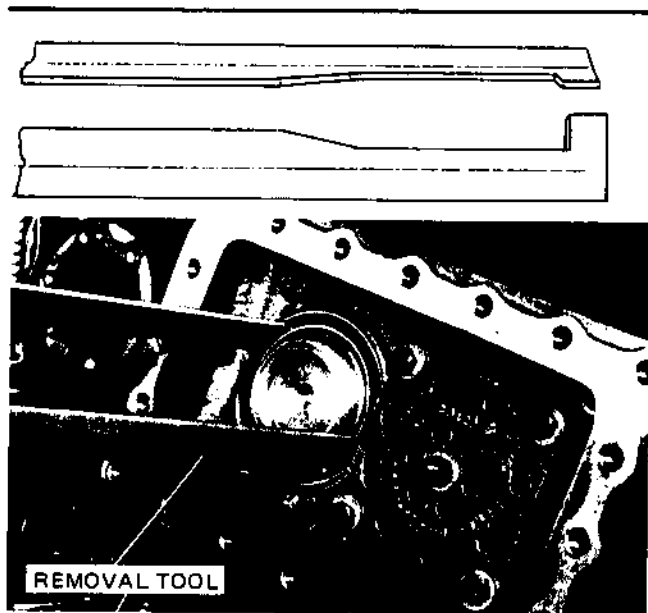
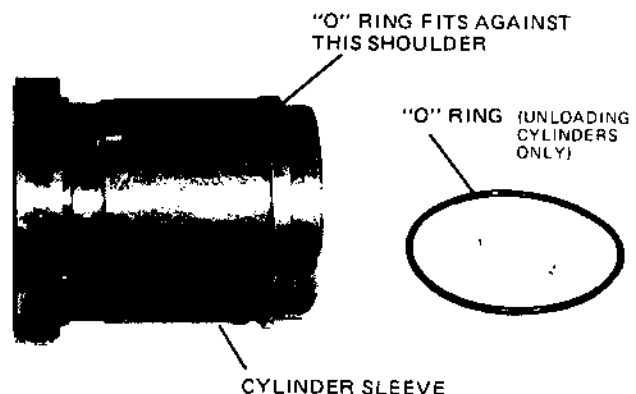

FIG. 17 — REMOVING CYLINDER SLEEVE
FIG. 18 — CYLINDER SLEEVE
4. Remove the cylinder sleeve(s). On unloading type cylinders, use of the tools similar to those shown in Fig. 17 may be useful since the cylinder sleeve is sealed with an "O" ring at the bottom and is a rather tight fit in the compressor. Use care that the piston is not damaged by striking the compressor housing. Remove the "O" ring from the compressor housing if it did not come out with the cylinder sleeve. (Unloading cylinders only.) (See Fig. 18.)